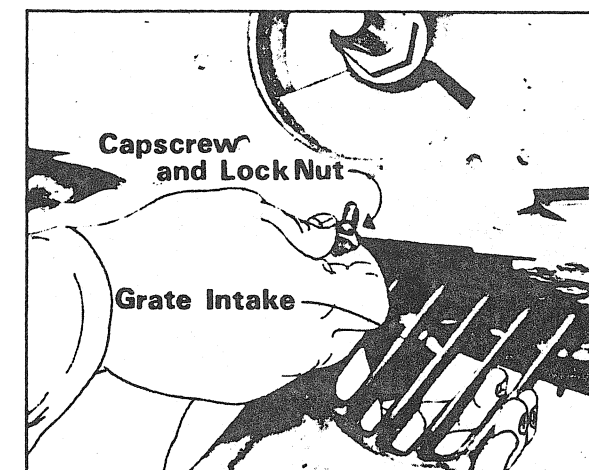

FIGURE 18
- Unscrew and remove the four (4) capscrews retaining the bowl assembly to suction piece, then remove the assembly.
- At the suction piece rear, remove the capscrew and jam nut holding the grate intake to the suction piece. Release the tension on the jam nut before removing capscrew (fig. 18).